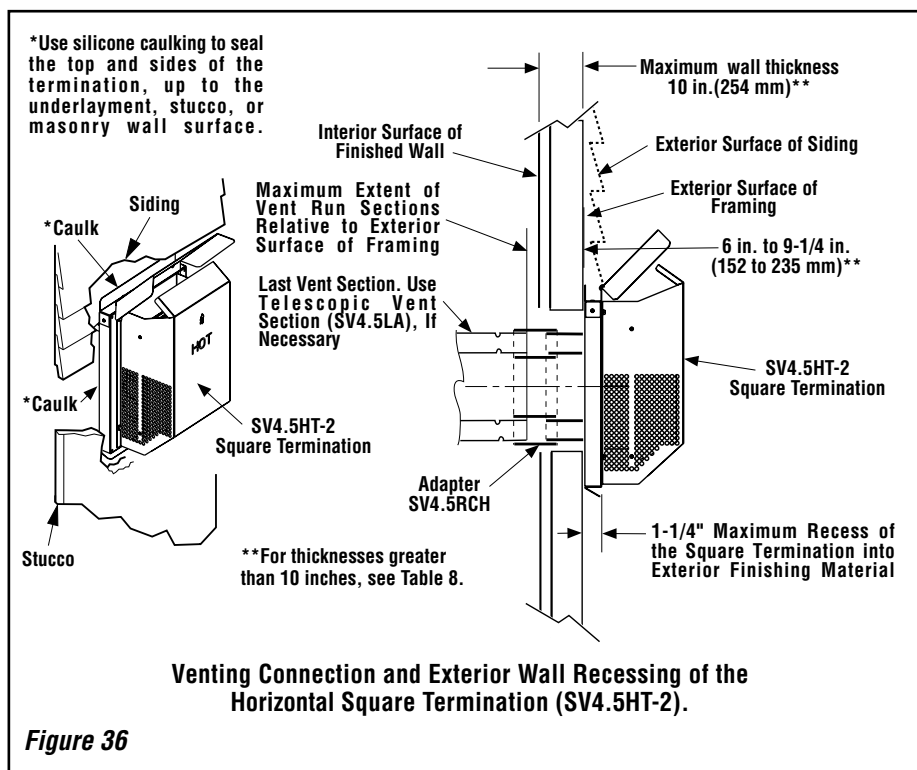

Figure 36
J. Assemble vent run to exterior wall - If not previously measured, locate the center of the vent at the exterior wall. Prepare an opening as described in **Step B**. Assemble the vent system to point where the terminus of the last section is within 7 in. (178 mm) to 11-1/4 in. (286 mm) inboard of the exterior surface to which the SV4.5 HT termination is to be attached, see **Figure 36**. If the terminus of the last section is not within this distance, use the **telescopic vent section SV4.5LA**, as the last vent section. For wall thicknesses greater than that shown in **Figure 36**, refer to **Table 8 on page 20**. This table lists the additional venting components needed (in addition to the termination and adapter) for a particular range of wall thicknesses.
1. Install the square termination (SV4.5HT-2)- For the last step, from outside the exterior wall, slide the collars of the termination onto the adapter (the outer over the outer and the inner inside the inner) until the termination seats against the exterior wall surface to which it will be attached. Orient the housing of the termination with the arrow pointed upwards. Secure the termination to the exterior wall. **The horizontal termination must not be recessed into the exterior wall or siding** by more than the 1-1/4" (32 mm) as shown in **Figure 36**.
Note: See Figure 36 showing wall thickness range when using SV4.5HT-2 termination kit.